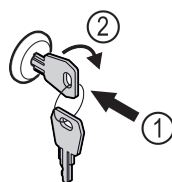

Fig. 194 Example illustration
- Insert key Fig. 194 (1).
- Turn key clockwise by 90° Fig. 194 (2).